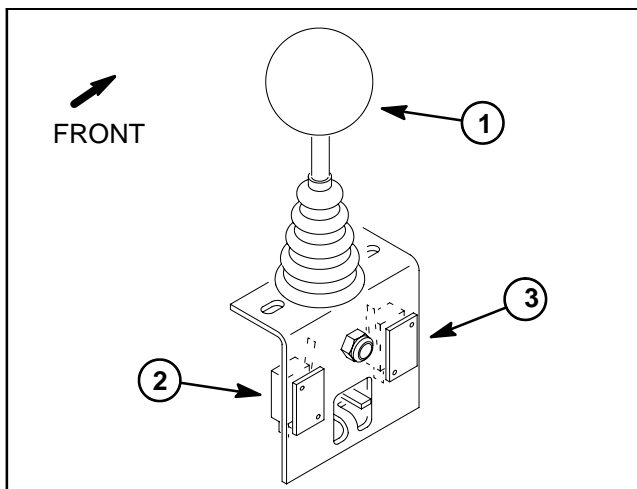

Figure 29
4. Disconnect wire harness electrical connector from the raise or lower switch that is to be tested (Fig. 29).